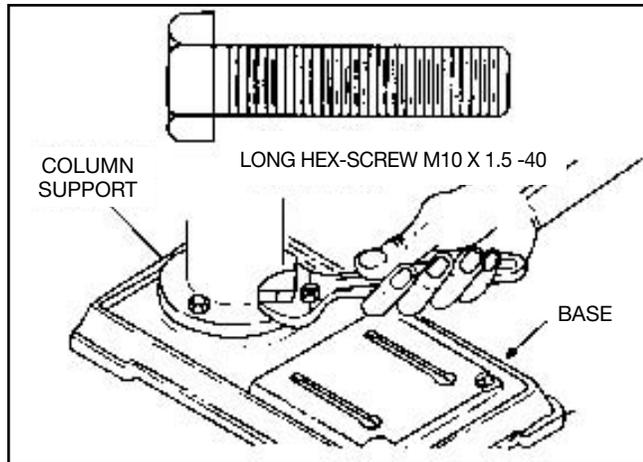

FIGURE 4
3. Locate (4) four 3/8" Dia. x 9/16" long bolts.
4. Install a bolt in each hole through column support and base; tighten with adjustable wrench. See figure 4.